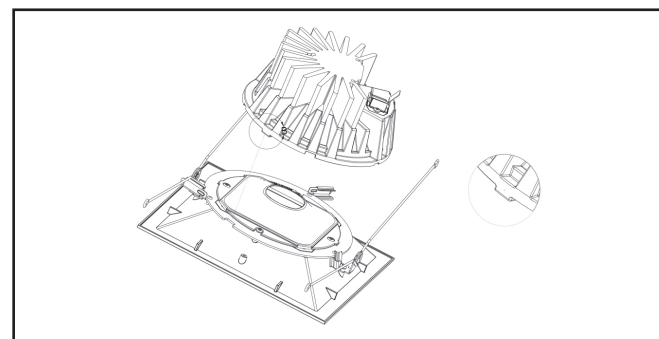

Figure 4
4. Insert LED engine on to trim assembly. Align post on LED engine with slot on trim assembly (Figure 4)